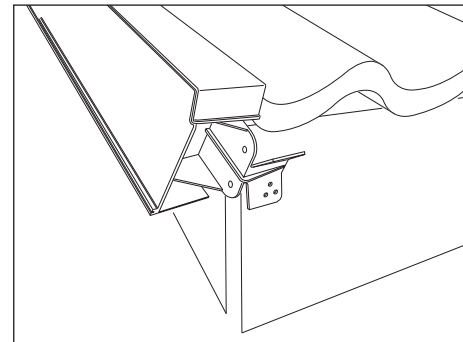

Fig. 3 – Mechanically fix starter unit
- 6 Secure the lower flange of the starter unit to the front of the fascia board using 2 No. 6 x 20mm stainless steel screws (supplied). If necessary, the upper flange can be trimmed to avoid interfering with the underside of the eave tile (Fig. 3), whilst leaving a gap to the brickwork/bargeboard along the bottom edge of the unit.